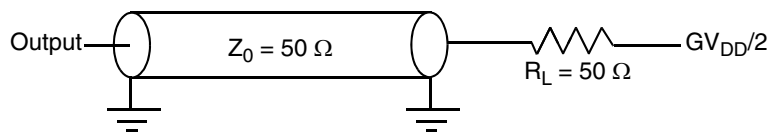
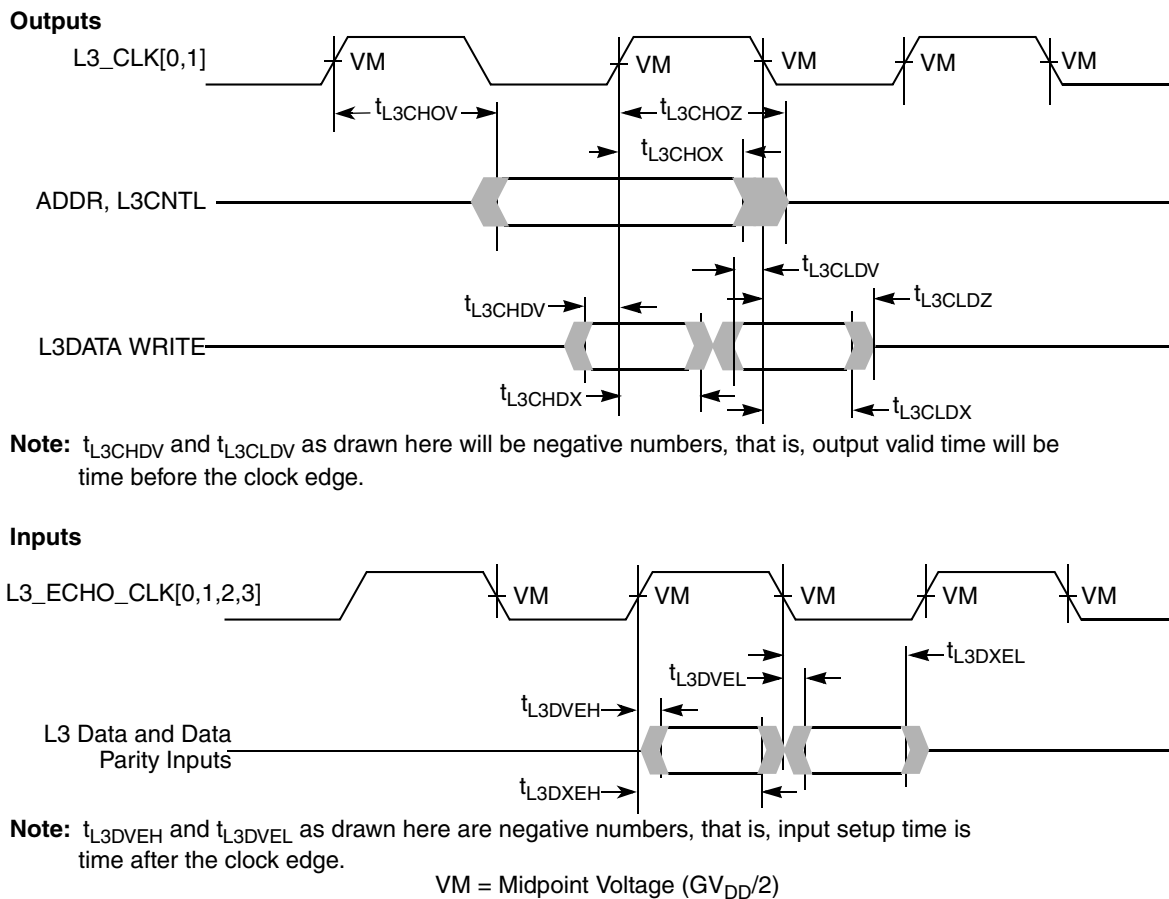
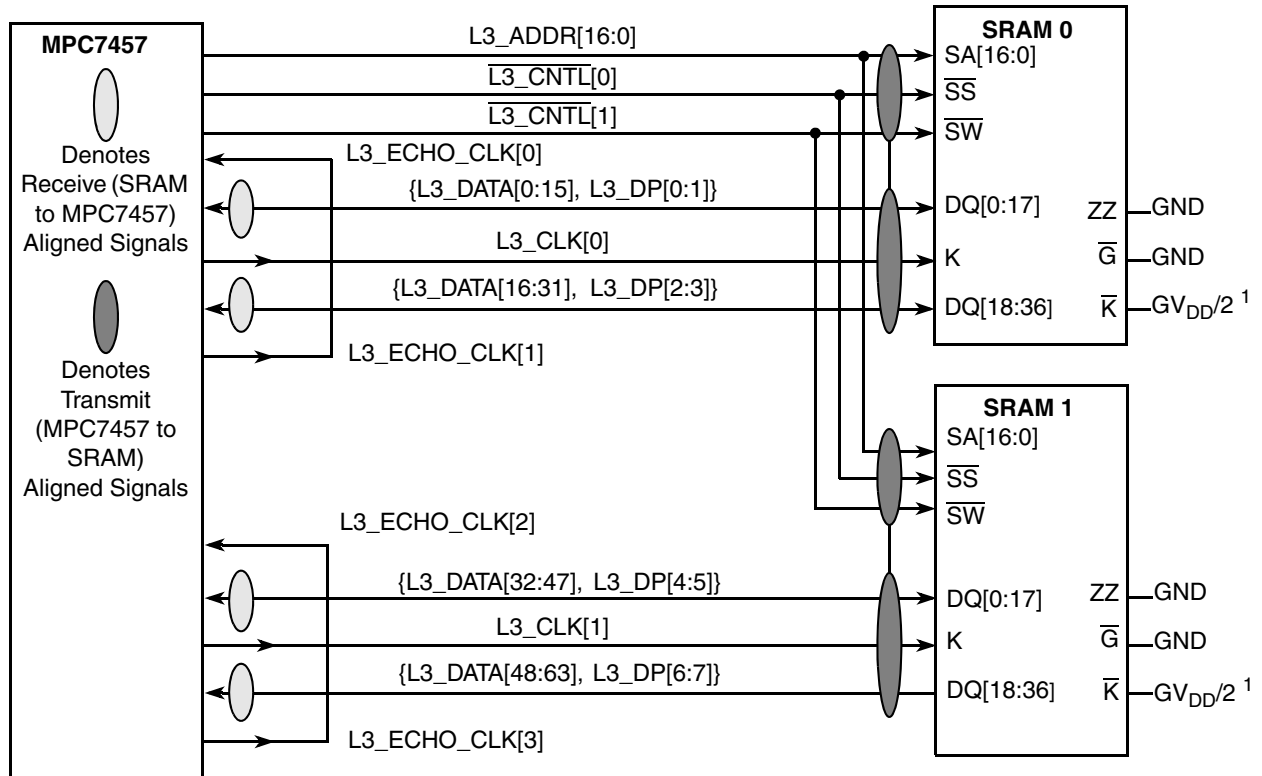
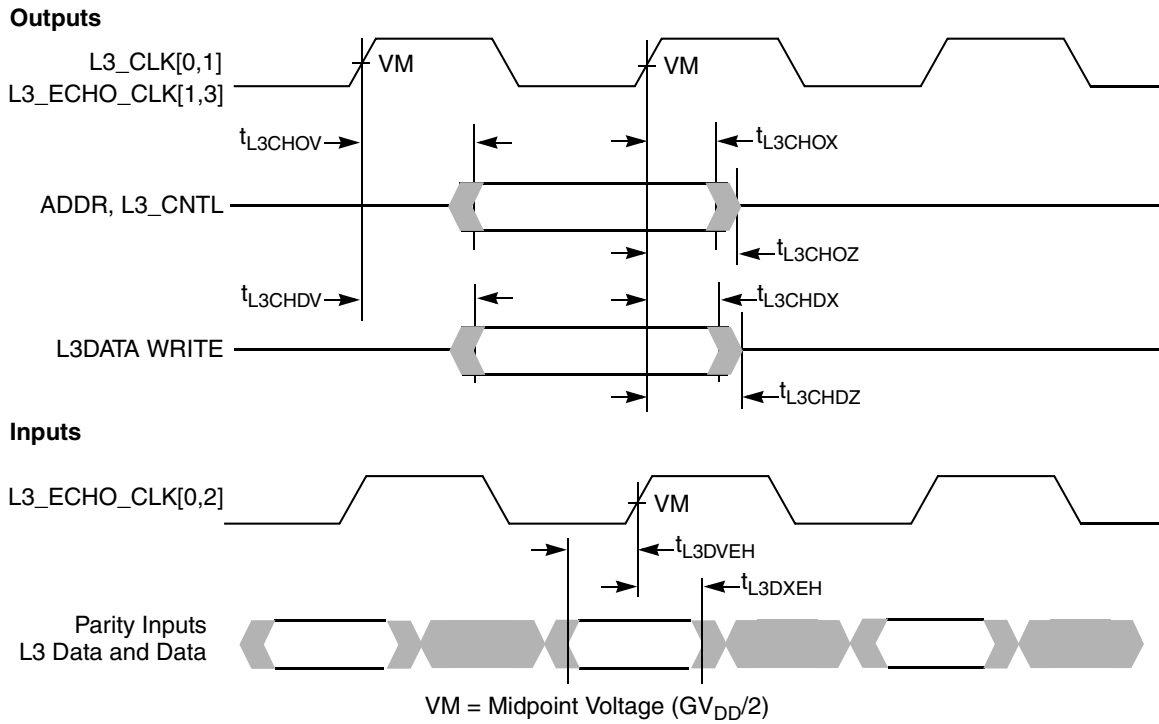

Figure 8. AC Test Load for the L3 Interface
Figure 10. L3 Bus Timing Diagrams for L3 Cache DDR SRAMs
Figure 11. Typical Synchronous 1-MByte L3 Cache Late Write or PB2 Interface
Figure 12. L3 Bus Timing Diagrams for Late Write or PB2 SRAMs
- For high-speed operations, L3 interface address and control signals should be a ‘T’ with minimal stubs to the two loads; data and clock signals should be point-to-point to their single load. Figure 8 shows the AC test load for the L3 interface.
5. Increasing values of L3CLK_n_OH delay the L3_CLK_n signal, effectively decreasing the output valid and output hold times of all signals latched relative to that clock signal by the SRAM; see Figure 9 and Figure 11.
Table 13 provides the L3 bus interface AC timing specifications for the configuration as shown in Figure 9, assuming the timing relationships shown in Figure 10 and the loading shown in Figure 8.
- For DDR, all input specifications are measured from the midpoint of the signal in question to the midpoint voltage of the rising or falling edge of the input L3_ECHO_CLK n (see Figure 10). Input timings are measured at the pins.
- For DDR, the input data will typically follow the edge of L3_ECHO_CLK n as shown in Figure 10. For consistency with other input setup time specifications, this will be treated as negative input setup time.
- All output specifications are measured from the midpoint voltage of the rising (or for DDR write data, also the falling) edge of L3_CLK to the midpoint of the signal in question. The output timings are measured at the pins. All output timings assume a purely resistive 50- Ω load (see Figure 8).
- For DDR, the output data will typically lead the edge of L3_CLK n as shown in Figure 10. For consistency with other output valid time specifications, this will be treated as negative output valid time.
Figure 10 shows the L3 bus timing diagrams for the MPC7457 interfaced to MSUG2 SRAMs.
When using PB2 or Late Write SRAMs at the L3 interface, the parts should be connected as shown in Figure 11. These SRAMs are synchronous to the MPC7457; one $L3_CLK_n$ signal is output to each SRAM to latch address, control, and write data. Read data is launched by the SRAM synchronous to the delayed $L3_CLK_n$ signal it received. The MPC7457 needs a copy of that delayed clock which launched the SRAM read data to know when the returning data will be valid. Therefore, $L3_ECHO_CLK1$ and $L3_ECHO_CLK3$ must be routed halfway to the SRAMs and returned to the MPC7457 inputs $L3_ECHO_CLK0$ and $L3_ECHO_CLK2$, respectively. Thus, $L3_ECHO_CLK0$ and $L3_ECHO_CLK2$ are phase-aligned with the input clock received at the SRAMs. The MPC7457 will latch the incoming data on the rising edge of $L3_ECHO_CLK0$ and $L3_ECHO_CLK2$.
Table 14 provides the L3 bus interface AC timing specifications for the configuration shown in Figure 11, assuming the timing relationships of Figure 12 and the loading of Figure 8.
3. All input specifications are measured from the midpoint of the signal in question to the midpoint voltage of the rising edge of the input L3_ECHO_CLK n (see Figure 10). Input timings are measured at the pins.
4. All output specifications are measured from the midpoint voltage of the rising edge of L3_CLK n to the midpoint of the signal in question. The output timings are measured at the pins. All output timings assume a purely resistive 50- Ω load (see Figure 10).
Figure 11 shows the typical connection diagram for the MPC7457 interfaced to PB2 SRAMs or Late Write SRAMs.
Figure 12 shows the L3 bus timing diagrams for the MPC7457 interfaced to PB2 or Late Write SRAMs.